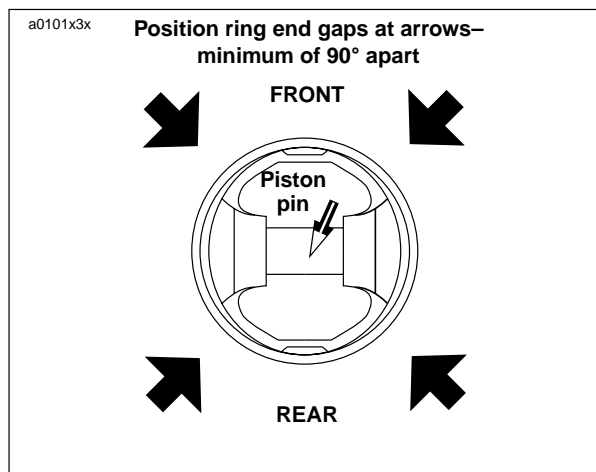

**Figure 3-102. Installing Piston Pin Circlip**
4. See Figure 3-102. Install **new** piston pin retaining rings (1) using PISTON PIN RETAINING RING INSTALLER (2) (Part No. HD-34623C). Place **new** retaining ring on tool with gap pointing up.